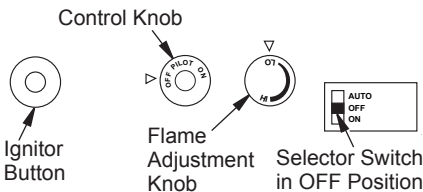

Figure 27 - Control Knob and Ignitor Button Location
- Press in and turn control knob clockwise  to the OFF position (see Figure 27).
- Wait five (5) minutes to clear out any gas. Then smell for gas, including near the floor. If you smell gas, STOP! Follow "B" in the safety information on page 19. If you don't smell gas, go to the next step.
- Press in and turn control knob counterclockwise  to the PILOT position. Press in control knob for five (5) seconds (see Figure 27).